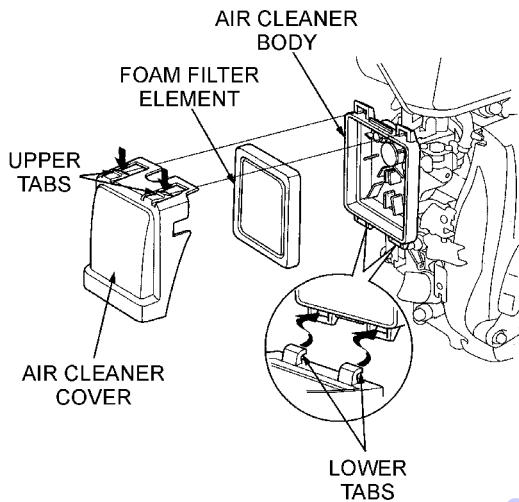

Figure 27. Engine Air Cleaner
1. Press the latch tabs on top of the air cleaner cover and remove the cover and foam filter element (Figure 27).